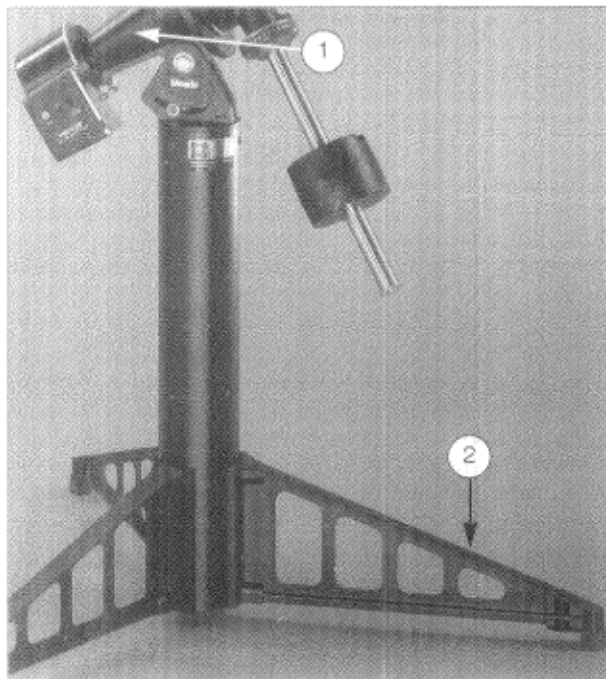

Fig. 6: Aligning the Telescope With the Celestial Pole. (1) Polar Casting; (2) North-Pointing Leg.
- a. Identify the tripod leg designated as the "North-Pointing Leg" (2, Fig. 6) (the leg that is parallel to the Polar casting when viewed from above).